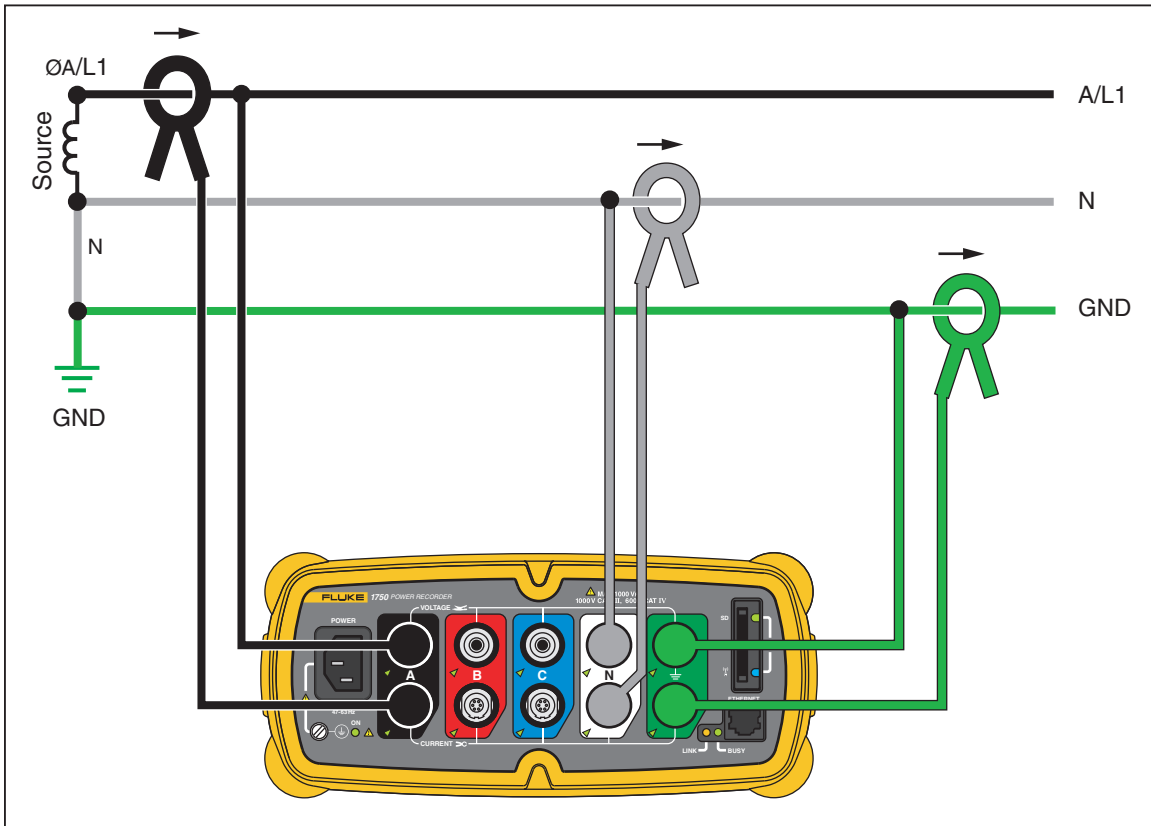

Figure 4. One Phase Plus Neutral
- One-Phase Plus Neutral (Figure 4)